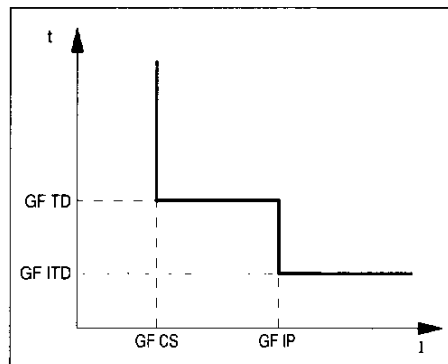
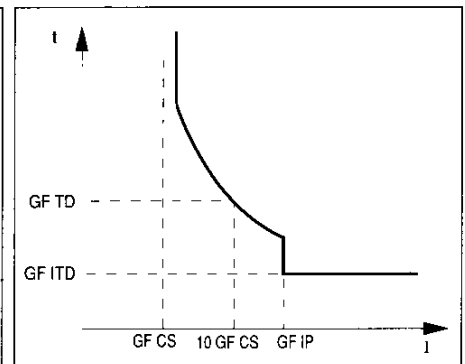

Figure 68: Definite time curve
Figure 69: Inverse-time-overcurrent curve
- definite time (figure 68) or inverse-time-overcurrent curves (figure 69)